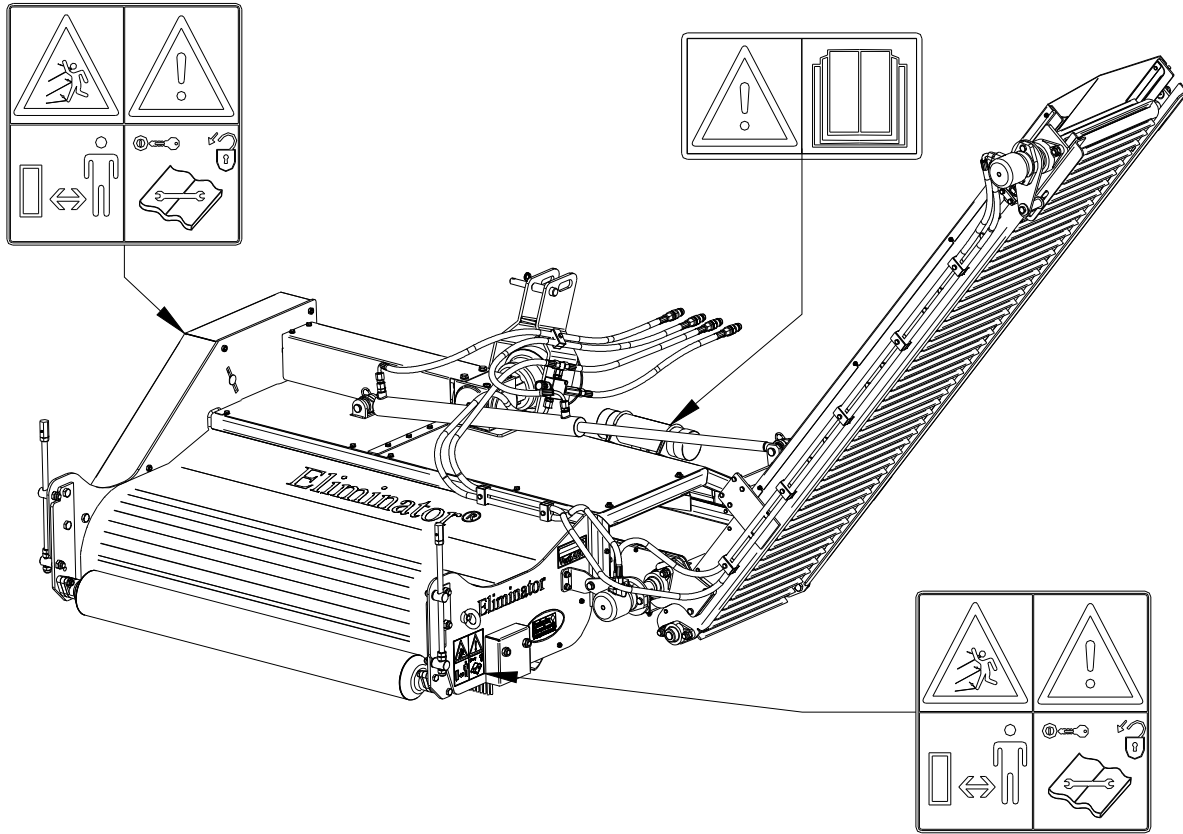

Fig. 5
On the side-board and near the front and side-cover on both sides of the Eliminator safety stickers (Fig. 5) are applied with an identical meaning. These safety stickers must be properly visible and legible at all times, and be replaced when damaged.
(7) Position of safety stickers. (Fig. 5)